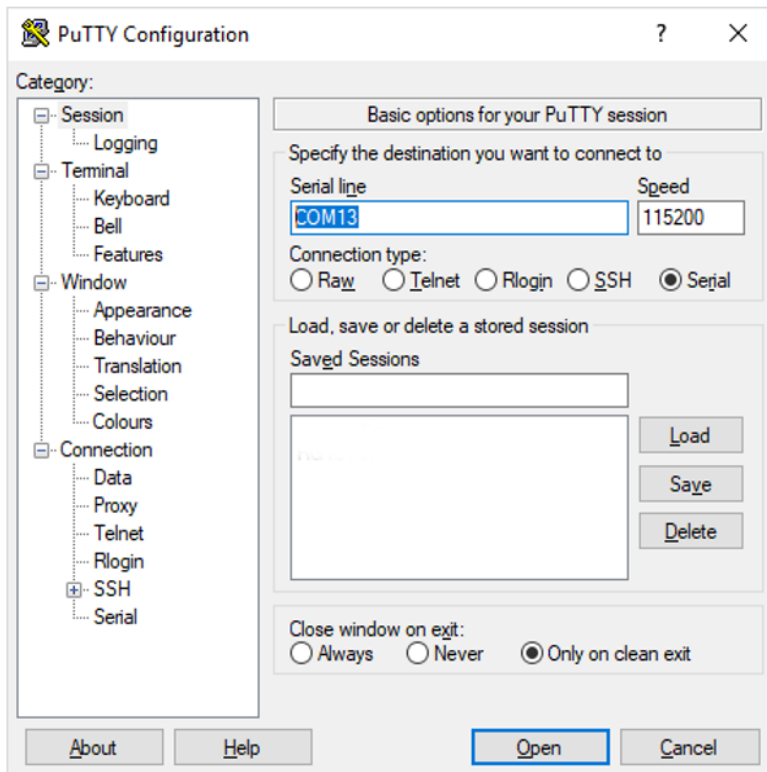

Figure 11: PuTTY setting connection parameters
7. From the PuTTY configuration, select Serial and then for the Serial Port the COM port associated for the DUT DVK-BL5340 (COM port shown in Windows Device Manager) and speed 115200 as shown in Figure 11.